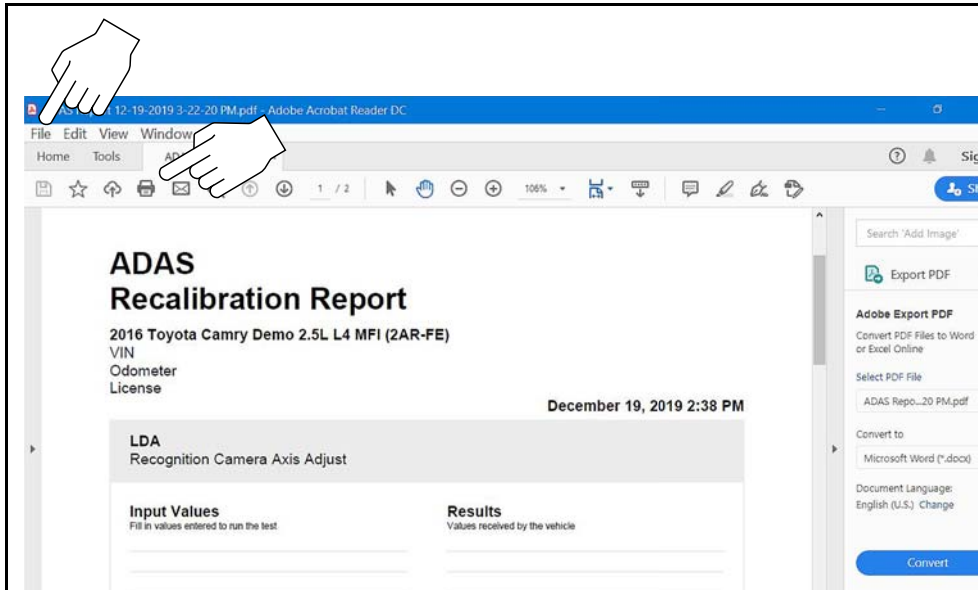

Figure 16-6
4. From the PDF viewer use the menu or toolbar print options to print the file (Figure 16-6).